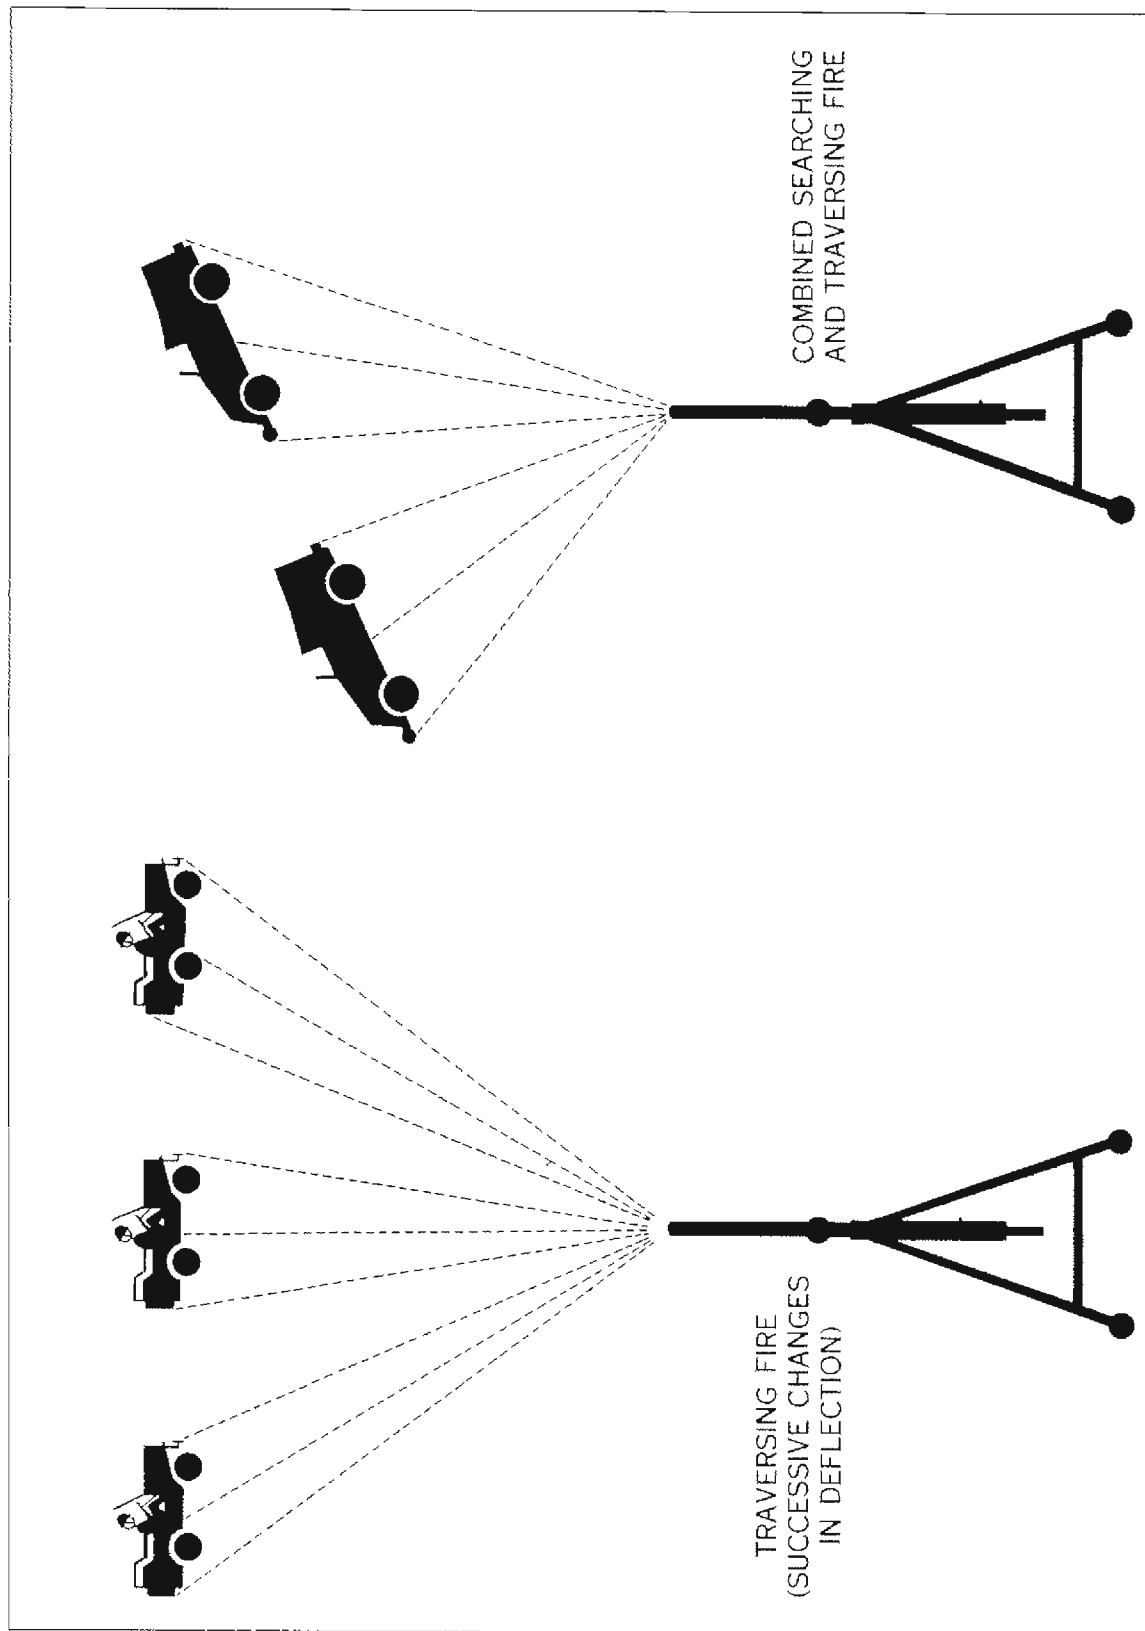

Figure 21
(2) Traversing (fig. 21).
(4) Combination searching and traversing (fig. 21).